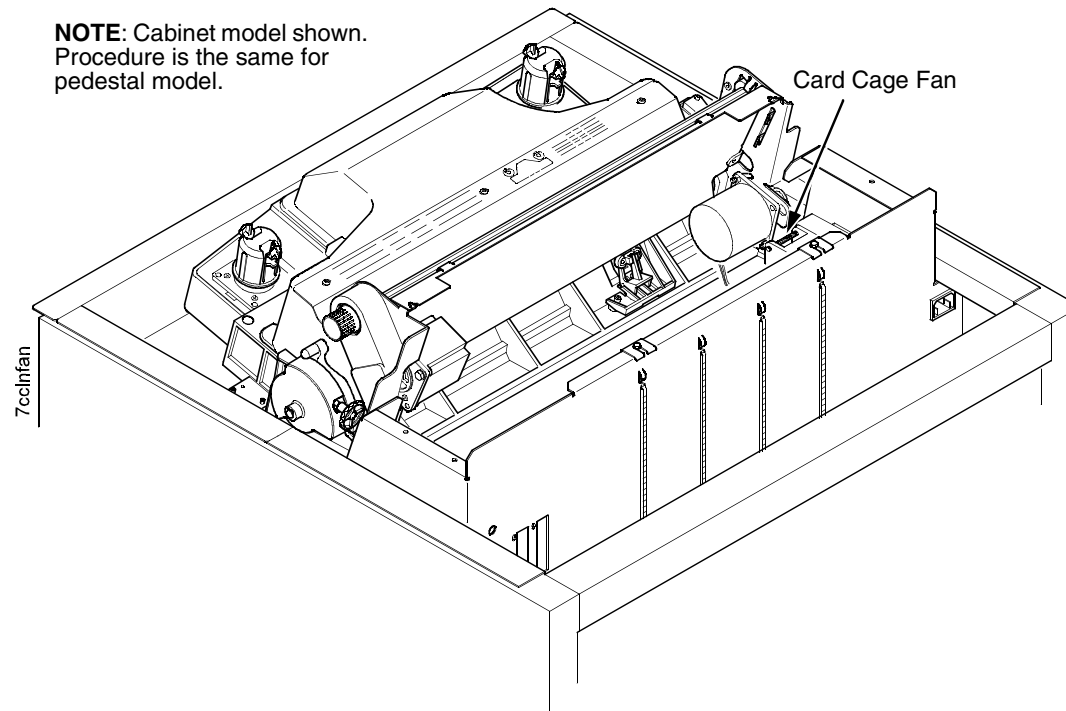

Figure 55. This figure points out the card cage fan assembly for cleaning.
2. Vacuum the card cage fan assembly and surrounding areas to remove paper particles, dust, and lint. (See Figure 55.)